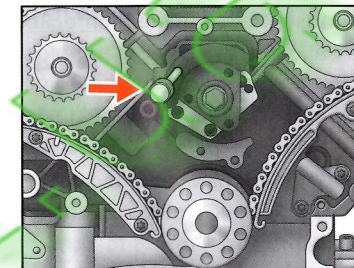

Fig.54
- (1) Ensure the crankshaft is positioned at TDC on No.1 cylinder with Crankshaft Locking Pin (Part No.E) fitted.
- (2) Ensure Balance Shaft Locking Pin (Part No.C) is located correctly through the balance shaft and into the datum hole in the bearing plate. (Fig.54)